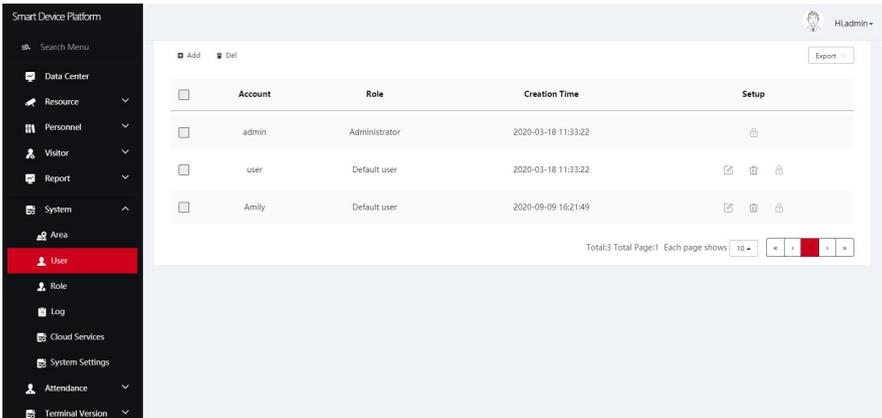

Figure 5-69
Step 1: In the smart device platform interface, click "System→User" to enter the user management interface, as shown in Figure 5-69 below.